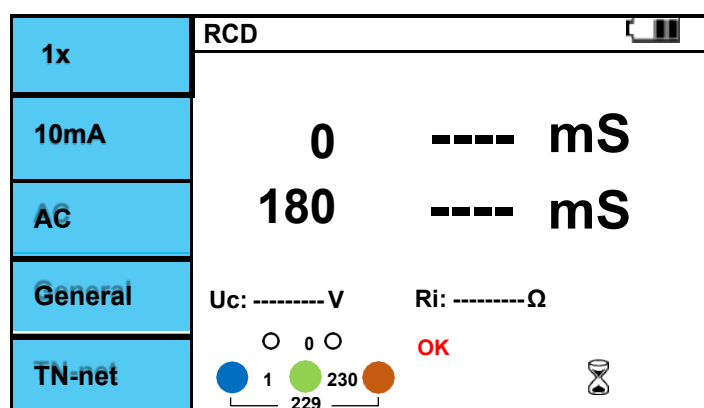

Figure 6.6.8 RCD / x1/2,x1,x2,x5 screen.
- If there is no problem with the test lead connection, "OK" is displayed as shown in Figure 6.6.8